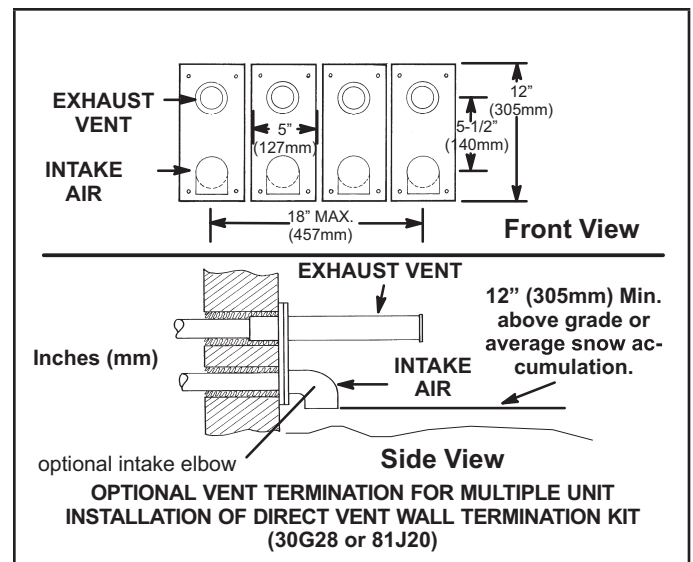

Figure 36
- 8 - A multiple furnace installation may use a group of up to four terminations assembled together horizontally, as shown in Figure 36.